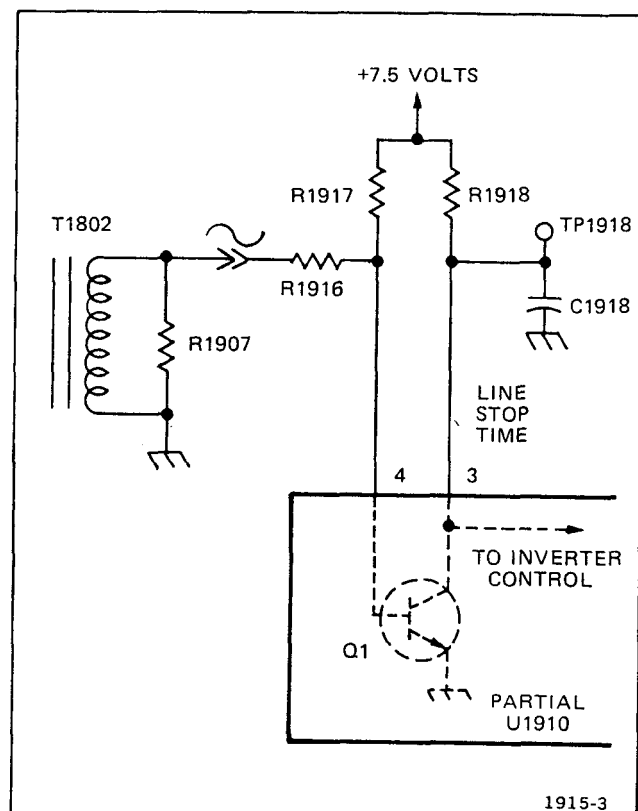

Fig. 3-15. Simplified Line-Stop Circuit.
while RT1821 and RT1822 cool and provide an increasing amount of surge current protection. See Fig. 3-15 for a simplified schematic of the Line Stop circuit.
1. Transformer T1802 supplies a sample of the line frequency to pin 4 of U1910 (the base of Q1, see Fig. 3-15). During a portion of each positive half cycle of this voltage, Q1 is biased on. The higher the AC line voltage the sooner during the positive half cycle Q1 will be biased on. In normal operation, C1918 charges toward +7.5 volts through R1918. When Q1 is biased on, C1918 rapidly discharges through Q1.